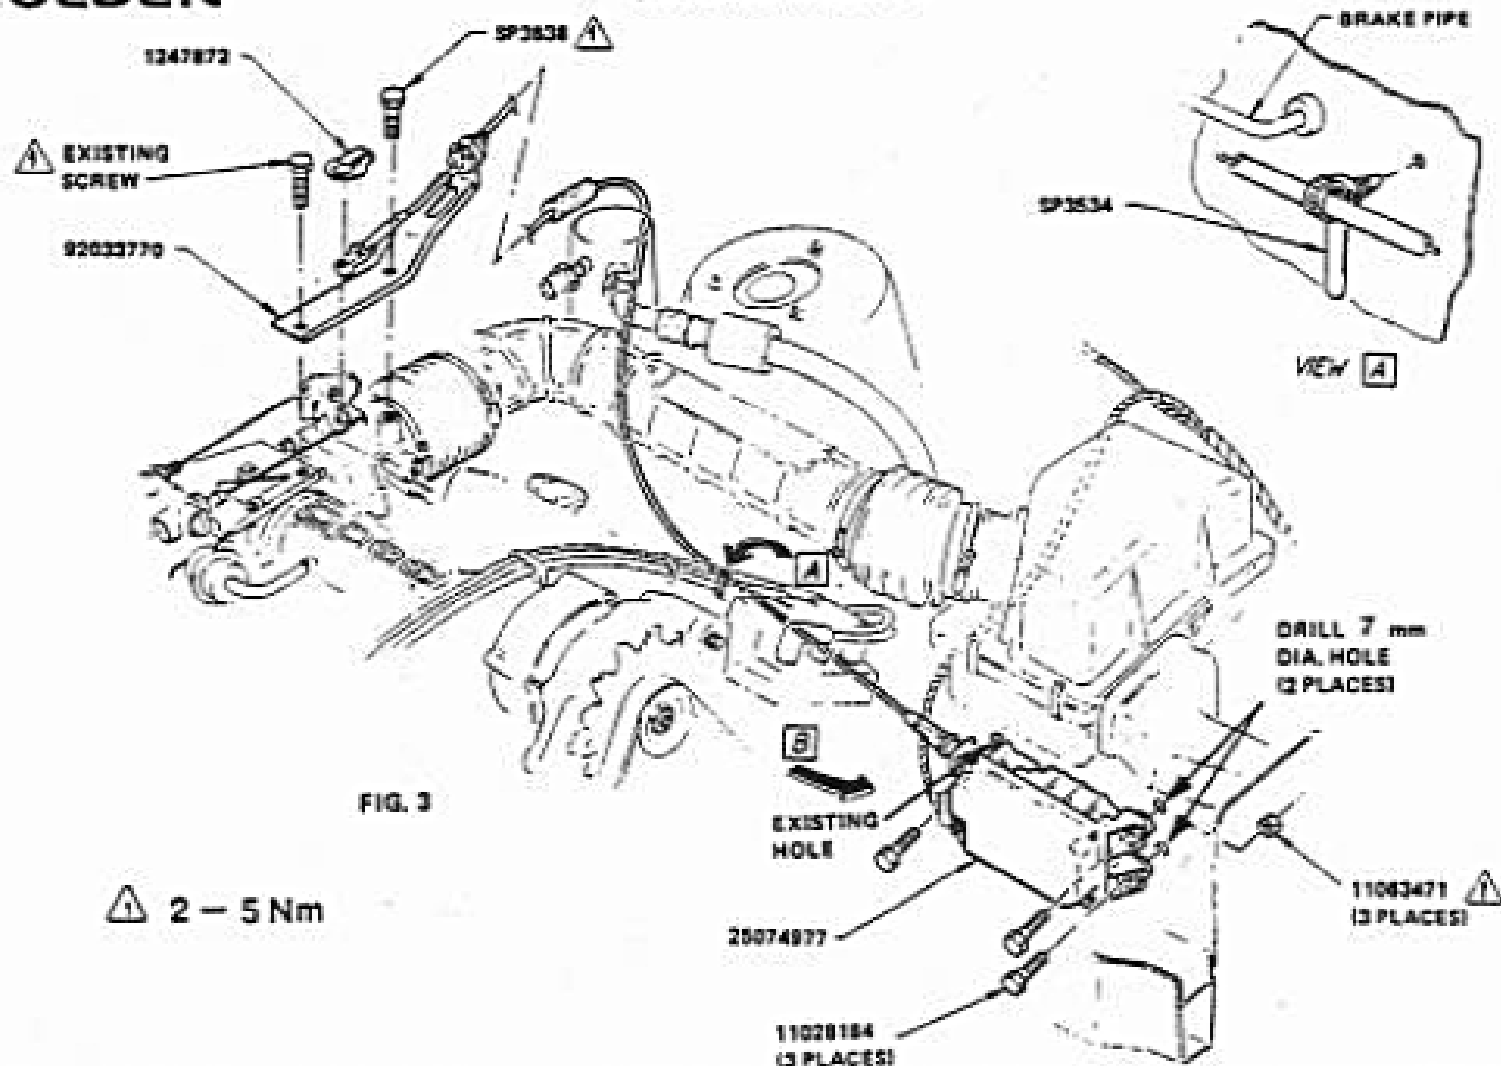

FIG. 3
3. Mount stepper motor/module asm, cable and cable mounting bracket according to Fig. 3.